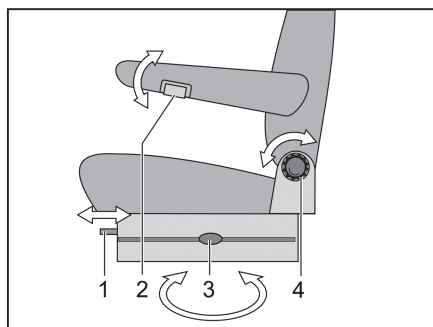
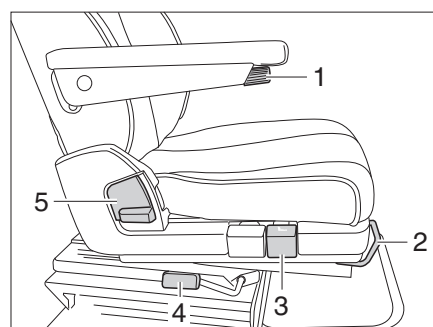

Fig. 30 Driver's and front passenger's seats (Aguti)
Fig. 31 Driver's and front passenger's seats (ISR!)
- Push or pull the lever (Fig. 30,3 or Fig. 31,4) to turn the seat. The seat is released from the locking device.